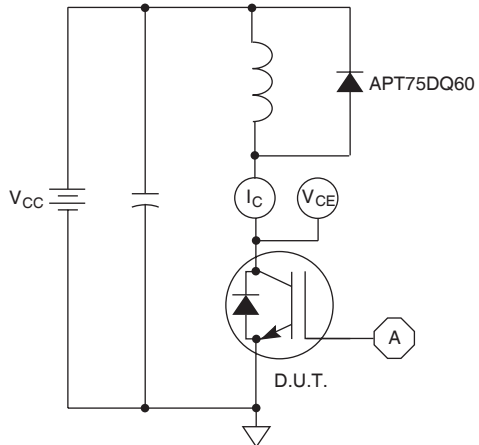

Figure 21, Inductive Switching Test Circuit
① Repetitive Rating: Pulse width limited by maximum junction temperature.
② For Combi devices, I_{oes} includes both IGBT and FRED leakages
③ See MIL-STD-750 Method 3471.
④ E_{on1} is the clamped inductive turn-on energy of the IGBT only, without the effect of a commutating diode reverse recovery current adding to the IGBT turn-on loss. Tested in inductive switching test circuit shown in figure 21, but with a Silicon Carbide diode.
⑤ E_{on2} is the clamped inductive turn-on energy that includes a commutating diode reverse recovery current in the IGBT turn-on switching loss. (See Figures 21, 22.)
⑥ E_{off} is the clamped inductive turn-off energy measured in accordance with JEDEC standard JESD24-1. (See Figures 21, 23.)
⑦ R_G is external gate resistance, not including $R_{G(int)}$ nor gate driver impedance. (MIC4452)
⑧ Continuous current limited by package lead temperature to 100A.